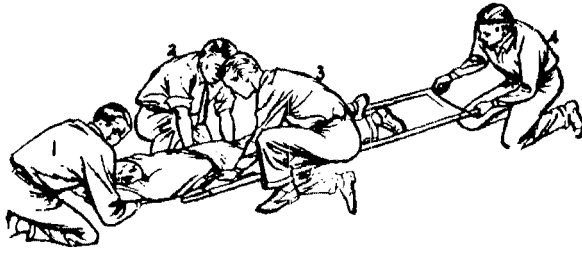

Fig. 41—Lifting and Placing of Litter
Step 4. On signal, all lift together so that the victim is raised 5 or 6 inches from the floor (just high enough to slide a litter underneath). (See Fig. 41.)